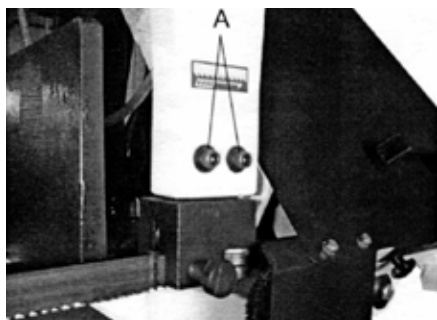

Figure 15. Thrust Roller Adjustment
2. Loosen two hex socket cap screws (Figure 15, A).
3. Move guide seat (B) up or down until a clearance of 0.003" to 0.005" between back of blade and thrust roller is obtained.
4. Tighten two hex socket cap screws (Figure 15, A).